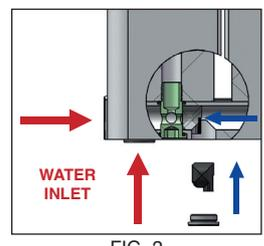

FIG. 2
- (fig. 2) Position of the diverter with the water inlet to the left of the radiator or with pipes rising from the floor